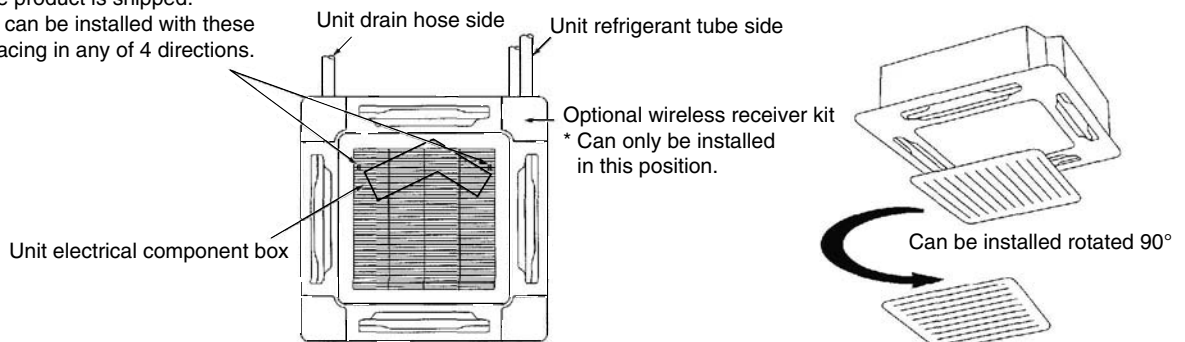

**Fig. 9-36**
- (1) Check that the safety cord from the corner cover is fastened to the ceiling panel pin, as shown in the figure. (Fig. 9-36)
- (2) Use the supplied screws to attach the corner cover to the ceiling panel.